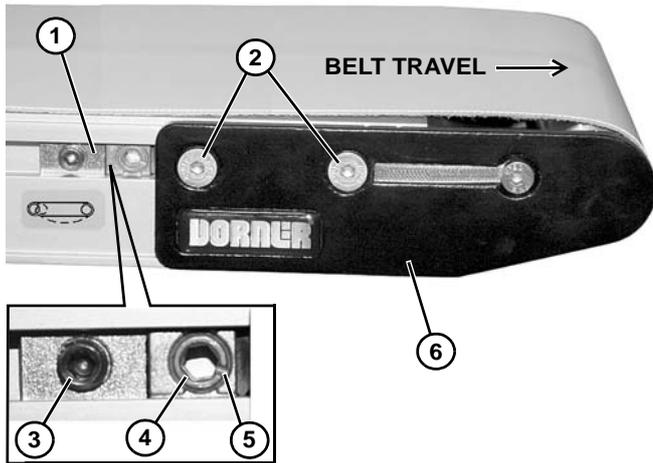

Figure 59
Non V-guided belt conveyors are equipped with belt tracking cam assemblies (Figure 59, item 1) for belt tracking adjustment.
1. Ensure headplate fastening screws (Figure 59, item 2) on both sides of conveyor are tightened.
2. On both sides of conveyor, loosen cam fastening screw (Figure 59, item 3). Adjust cams (Figure 59, item 4) until indicator slots (Figure 59, item 5) are horizontal and facing end of conveyor. Then slide cam assemblies against headplates (Figure 59, item 6) and re-tighten cam fastening screws (Figure 59, item 3) to 7 Nm.
3. On the side toward which the belt is tracking, loosen headplate fastening screws (Figure 59, item 2).
4. With the conveyor running, use a 5 mm hex-key wrench to rotate the tracking cam (Figure 59, item 4) in small increments until the belt tracks in the center of the conveyor. Then while holding the cam in position, re-tighten the headplate fastening screws (Figure 59, item 2) with a 4 mm hex-key wrench to 7 Nm.